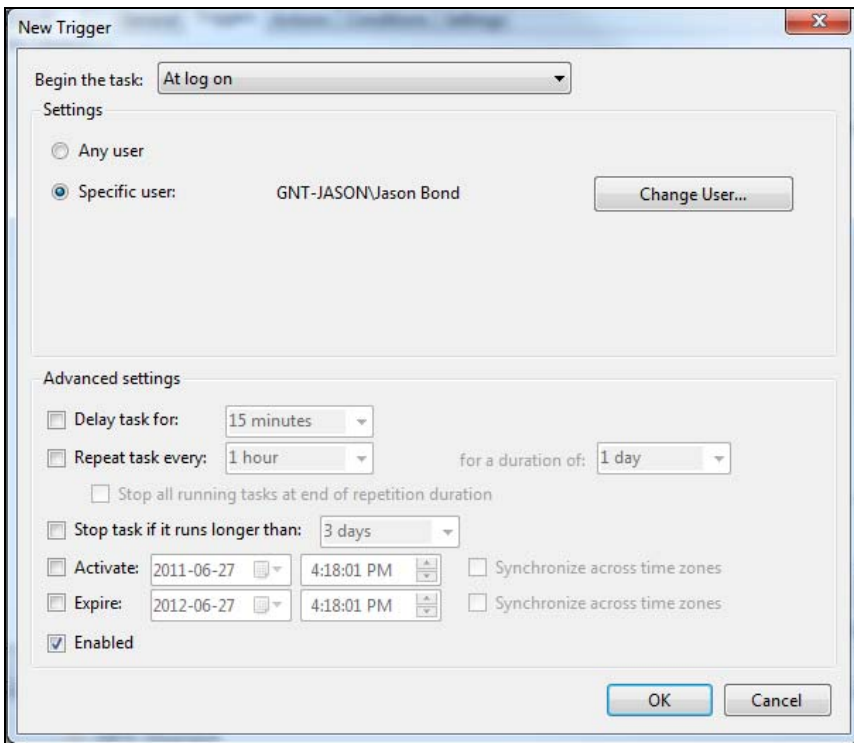

Figure 12: Configuring a Task - New Trigger
- e. Select Begin the task: “At log on”. Specify the user account (Figure 12).